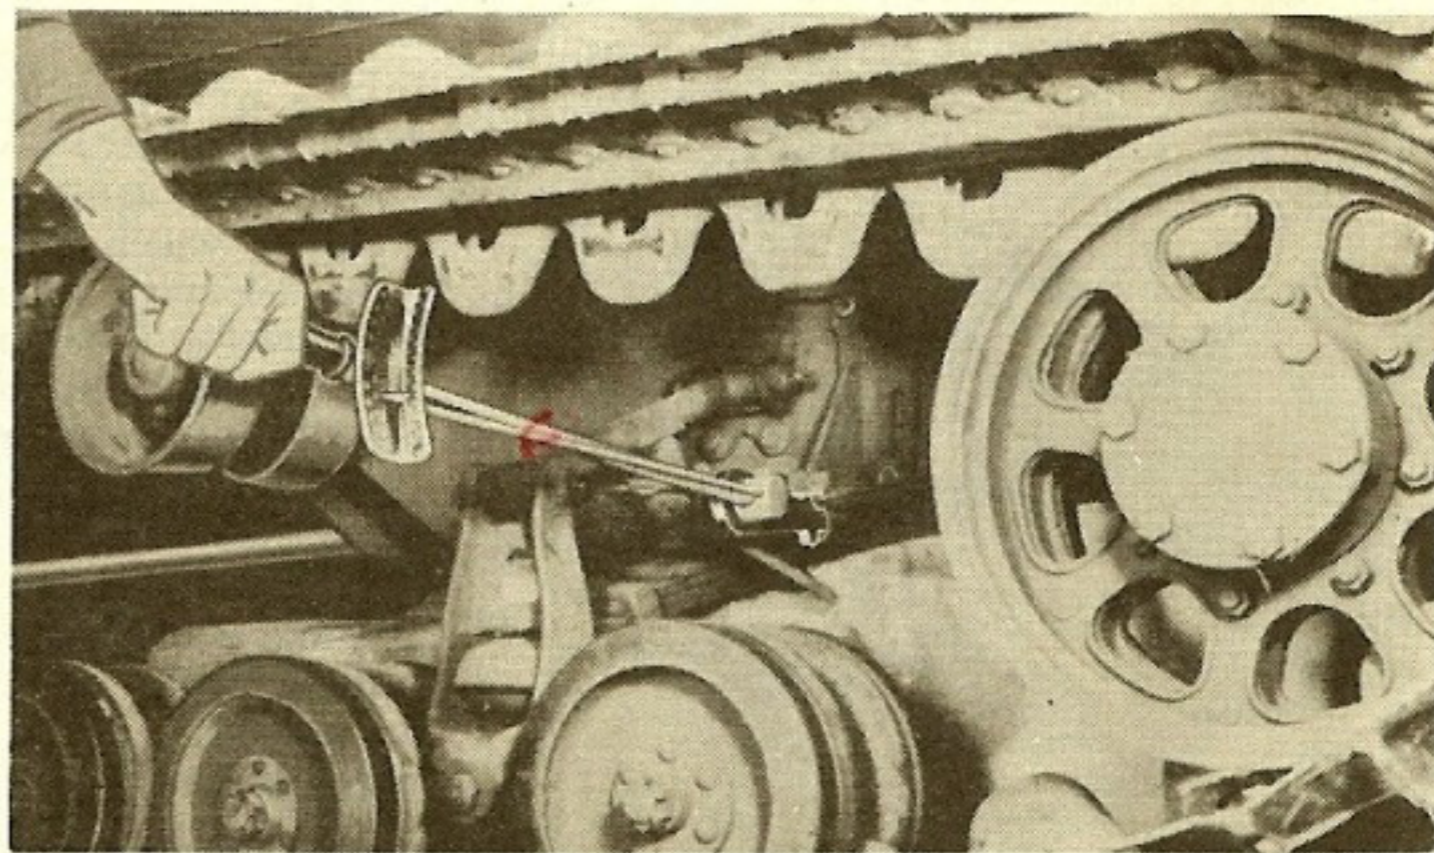

Fig. 3—How it's done—just pull the leaf spring down $\frac{1}{8}$ " (no farther) away from the spring-adjusting bracket.
By the numbers, here's how you use the new tool (Fig. 3): (1) Stick the tool on the end of the torque wrench. (2) Fit the nose of the tool (there's a ball bearing in it) into the spring eye. (3) Rest the pivot point of the tool on the underside of the spring top. (4) Pull up on the torque wrench until there's a clearance of $\frac{1}{8}$ " (no more) between the top of the spring eye and the bottom of the spring stop. If the wrench reads between 42 and 47 ft.-lbs. torque, the track is in adjustment. Any more or less, it needs adjusting.